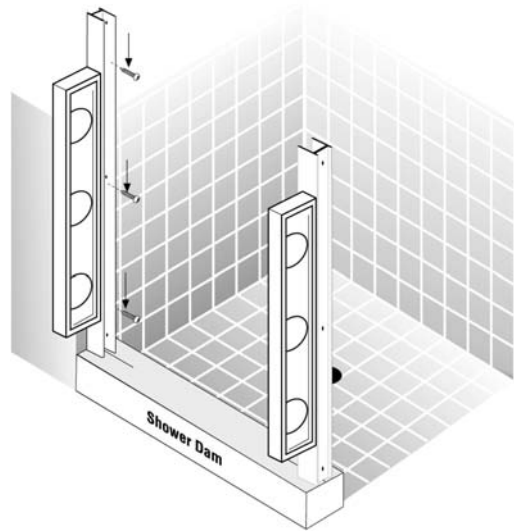

Figure 2
- C. Place a Slip Jamb Male (#2) at the centerline mark on the shower dam on the left wall (See Figure 2). Use the level to align the Slip Jamb Male (#2) straight up and down. Use the pencil tip in each of the pre-drilled holes in the Slip Jamb Male (#2) to mark the wall. Set the Slip Jamb Male (#2) aside.
- F. Repeat steps 3B-3E to install the other Slip Jamb Male (#2) on the opposite wall (See Figure 2).